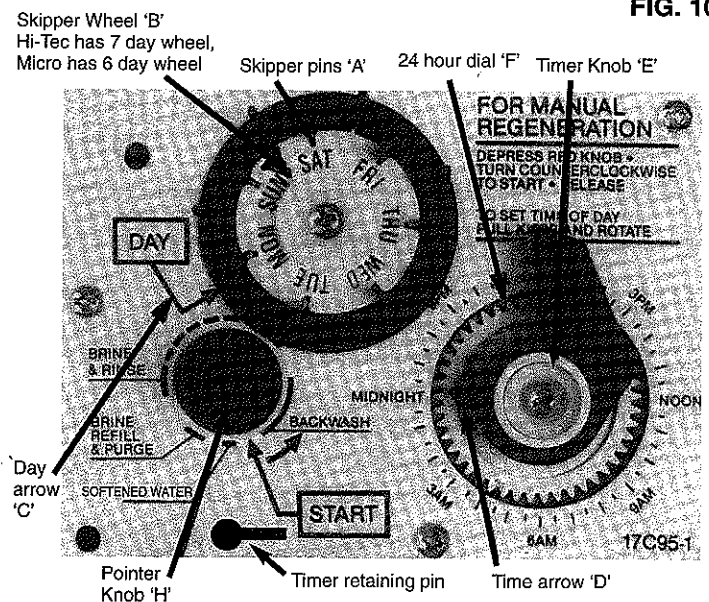

FIG. 10
2. Depress and turn pointer knob 'H' (Fig 10) on the control, anticlockwise using broad headed screwdriver, to the backwash position. Assist this movement by simultaneously turning the camshaft with your other hand. (Fig. 13 Part 1B).
1. Set time arrow 'D' (Fig 10) to correct time of day by grasping timer knob 'E', pulling outwards and rotating in either direction until the actual time of day on the 24hr. time dial lines up with time arrow 'D'. Release timer knob 'E' and ensure that cogs relocate.